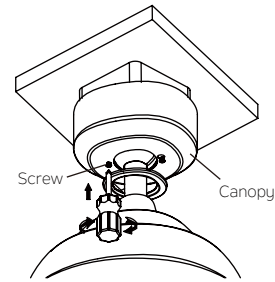

Fig. 18
Step 2. Reinstall the shoulder screw that was previously removed on Page 8 step 2, then retighten two shoulder screws securely.(Fig.18)